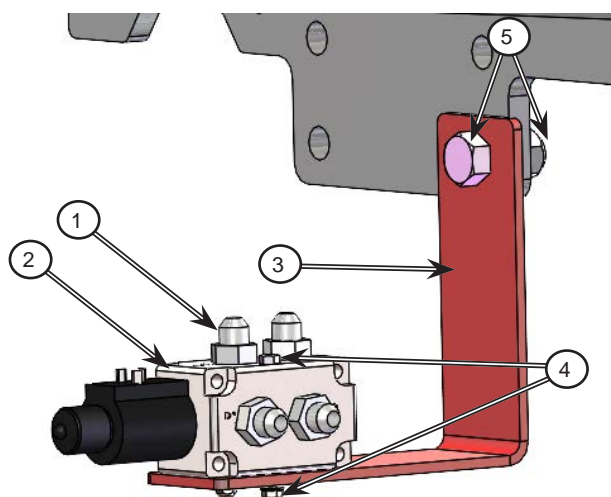

Figure 1.1: Fasten the ESV onto the mounting bracket (RH side shown)
1. Install the 6 8M8-8MJ hydraulic adapter fittings (1) onto the electric selector valve (2), as shown in *Figure 1.1*.
2. Fasten the ESV (2) onto the mounting bracket (3) using  $\frac{1}{4}$ " x  $3\frac{1}{4}$ " hex bolts and  $\frac{1}{4}$ " flange lock nuts (4), as shown in *Figure 1.1*.
3. Fasten the mounting bracket (3) to the front right-hand (RH) or left-hand (LH) cross member under the tub floor using a  $\frac{3}{4}$ " x  $1\frac{3}{4}$ " hex bolt and a  $\frac{3}{4}$ " flange lock nut (5), as shown in *Figure 1.1*.